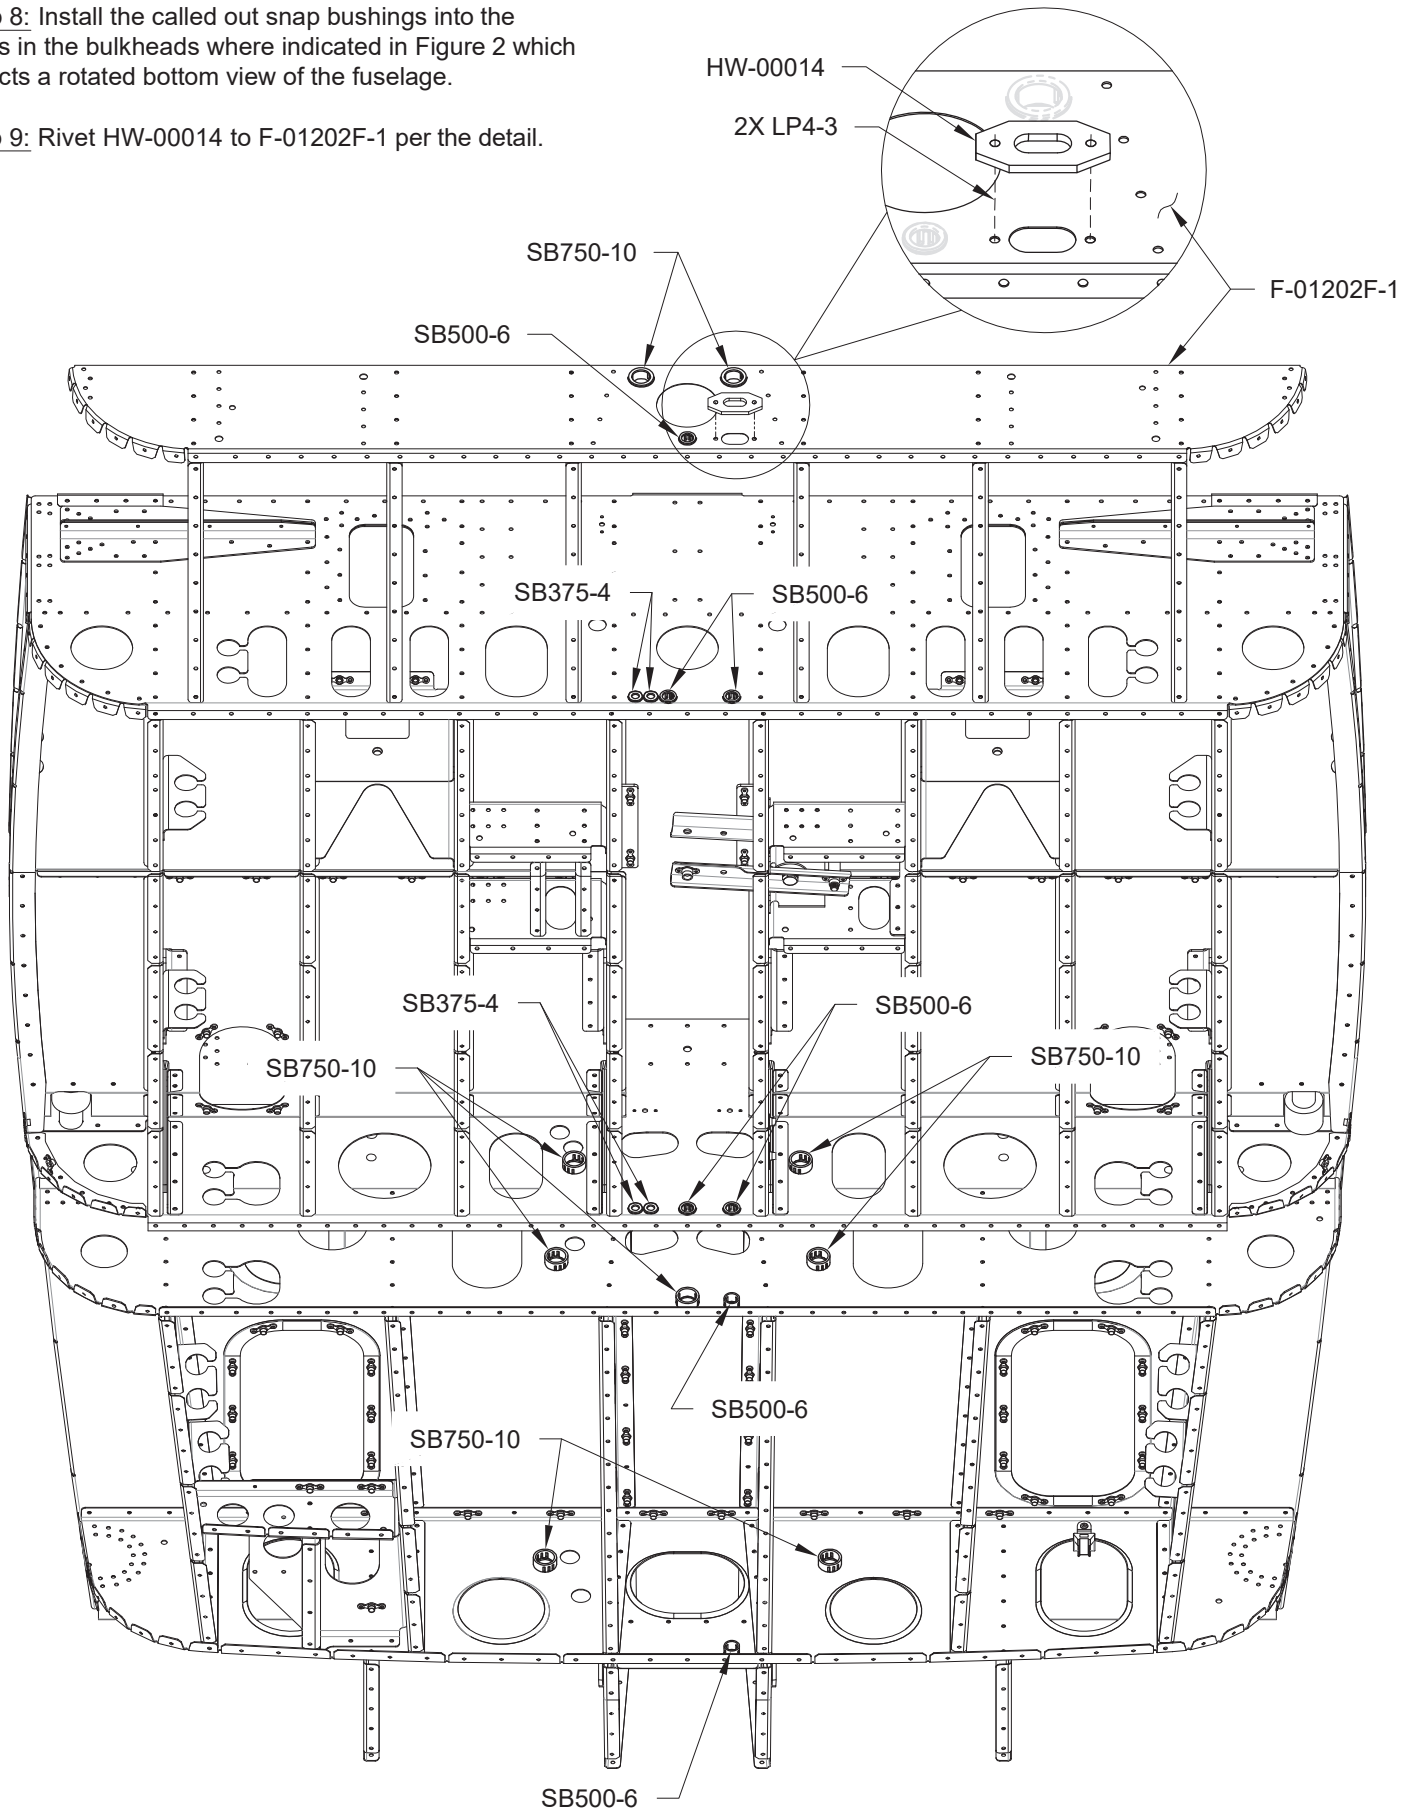

FIGURE 2: INSTALLING SNAP BUSHINGS
Step 8: Install the called out snap bushings into the holes in the bulkheads where indicated in Figure 2 which depicts a rotated bottom view of the fuselage.